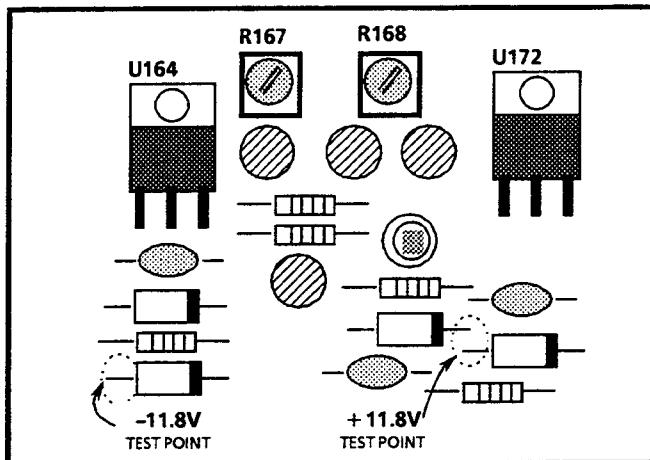

Fig. 5-15. Enlargement of a small portion of the Main circuit board (A3) showing the test points and adjustment location for the + and - 11.8 V supplies.
- a. Connect the voltmeter ground lead to one of the rear-panel ground lugs and the active lead to the -11.8 V test point. See Fig. 5-15.
- c. Connect the voltmeter active lead to the +11.8 V test point. See Fig. 5-15.